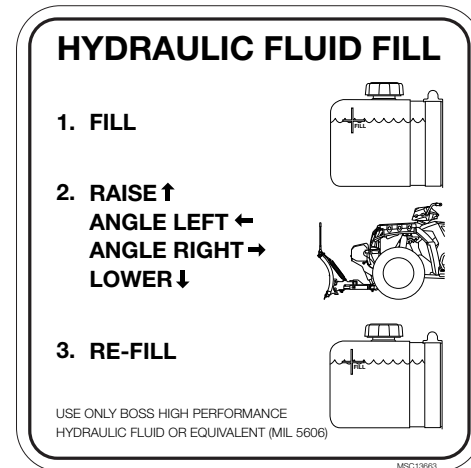

Figure 15. Hydraulic Fluid Fill Procedure MSC13663
4. Fill the Power Unit reservoir to the fill line with Boss High Performance Hydraulic Fluid or equivalent (MIL 5606) (Approx. ½ quart) as shown in Figure 15.
8. Re-install the Coupler Cover (42) and Plastic Rivets (43A).